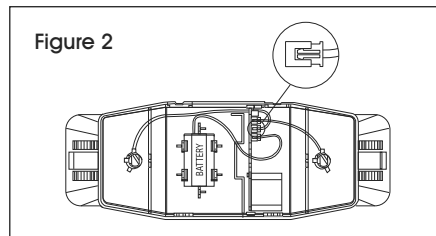

Figure 2
4. Connect to battery with connectors. (See Figure 2)
3. Connect battery before continuous AC power is supplied to unit. (See Figure 2)